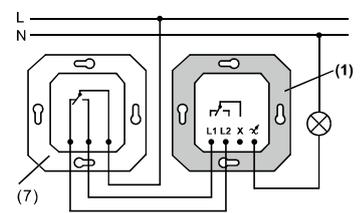

Figure 3: Changeover switch
- Connect the dimmer (1) and the changeover switch (7) according to the connection diagram (Figure 3)